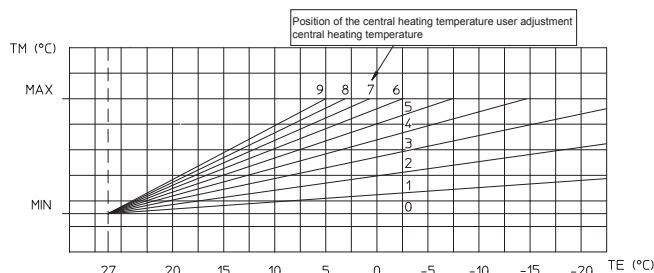

Fig. 1-8
The probe can be connected directly to the boiler electrical system and allows the max. system flow temperature to be automatically decreased when the external temperature increases, in order to adjust the heat supplied to the system according to the change in external temperature. The external probe always acts when connected independently from the presence or type of room thermostat used. The correlation between system flow temperature and external temperature is determined by the position of the selector switch on the boiler control panel according to the curves shown in the diagram (Fig. 1-8). The electric connection of the external probe must be made on clamps 38 and 39 on the boiler P.C.B. (Fig. 3-2).
• **Functioning with optional external probe (🌡).** In the case of a system with optional external probe, the boiler flow temperature for room central heating is managed by the external probe depending on the external temperature measured (Par. 1.6). The flow temperature can be modified by selecting the functioning curve via buttons (5 and 6), selecting a value from "0 to 9" (Fig. 1-8).